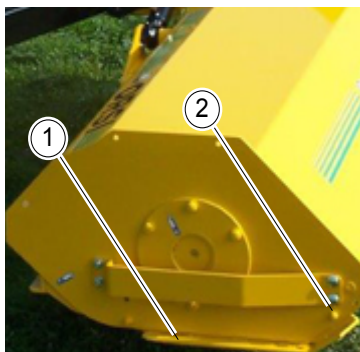

Fig.40
- Svitare le viti (2, "Fig.40").
- Sollevare o abbassare le slitte (1, "Fig.40").
- Avvitare le viti (2, "Fig.40").
- Unscrew the bolts (2, "Fig.40").
- Lift or to lower the skids (1, "Fig.40").
- Screw and tighten the bolts after positioning the grapevines.(2, "Fig.40")
- Devisser les vis (2, "Fig.40").
- Soulever ou baisser les patins (1, "Fig.40").
- Visser les vis (2, "Fig.40").
- Abschrauben Sie die Schraube (2, "Fig.40").
- Erhöhen oder senken Sie die Kufen (1, "Fig.40").
- Ziehen Sie die Schraube (2, "Fig.40").
- Destornillar las vides (2, "Fig.40").
- Levantar o bajar los trineos (1, "Fig.40").
- Atornillar las vides (2, "Fig.40").
- Desaparafusar os parafusos (2, "Fig.40").
- Elevar ou baixar as corrediças (1, "Fig.40").
- Apertar os parafusos (2, "Fig.40").